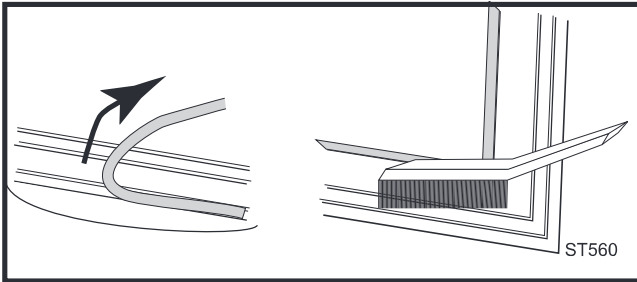

Fig. 43 Remove gasket then clean channel with wire brush.
2. Use a wire brush or a screwdriver to clean the channel of any remaining cement or bits of gasket. Remove stubborn deposits of cement with a cold chisel if necessary. (Fig. 43)